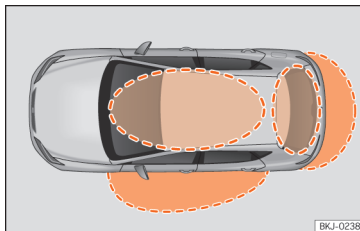
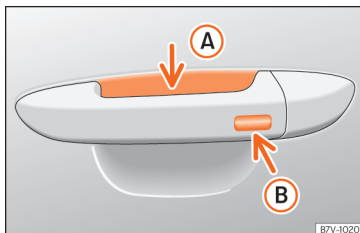

Fig. 84 Keyless Access: proximity zones.
Fig. 85 Door handle: sensor surfaces
»» **Fig. 85**
Keyless Access is a key-free locking and ignition system to unlock and lock the vehicle without actively using its key. To do this, all that is required is to have a valid vehicle key in the detection area where you are attempting to access the vehicle »» Fig. 84 and to touch one of the sensor surfaces on the door handles »» Fig. 85 »» ❶.
If a valid key is in the proximity of the car »» Fig. 84, the Keyless Access locking and starting system gives the key entry as soon as
- Grip the driver door handle. When you do this, you touch the sensor surface »» Fig. 85 ❶ (arrow) of the handle and the vehicle unlocks.
- Touch (*once*) the locking sensor surface »» Fig. 85 ❷ (arrow) on the driver's door handle. The door that is used must be closed.
- Touch (*once*) the sensor surface »» Fig. 85 ❷ (arrow) on the driver's door handle. The vehicle locks with the "Safe" security system »» page 102. The door that is used must be closed.
- Touch (twice) the sensor surface »» Fig. 85 (B) (arrow) of the driver door handle to lock the vehicle without activating the “Safe” security system »» page 102.
When the vehicle is locked, the rear lid automatically unlocks on opening if there is a valid vehicle key in the proximity »» Fig. 84.
- Push the central locking button  on the remote control and touch the locking sensor surface of the driver door handle »» Fig. 85 (B) within the following 5 seconds. Do not grasp the door handle; otherwise the vehicle will not unlock. Deactivation is also possible if the vehicle is locked through the driver's door lock.
To close all the electric windows and the sunroof using the **comfort function**, keep a finger for a few seconds on the locking sensor surface »» Fig. 85 (B) (arrow) of the door handle until the windows and roof have closed.
The sensor surfaces on the door handles could engage if hit with a water jet or high pressure steam if there is a valid vehicle key in the proximity. If at least one of the electric windows is open and the sensor surface »» Fig. 85 (B) (arrow) on one of the handles is activated continuously, all windows will close.